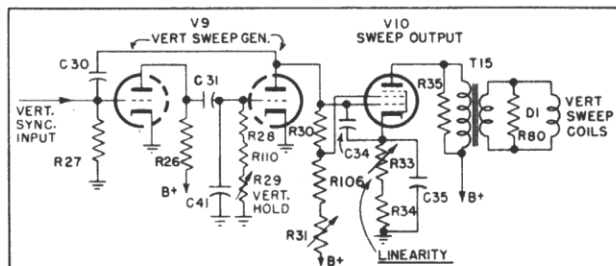

Fig. 9. Vertical Sweep and Output
**7. VERTICAL SWEEP GENERATOR AND OUTPUT (SEE FIGURE 9)**—The vertical sawtooth voltage is generated by a Type 6SN7GT tube, V9, connected as a multivibrator. This voltage is coupled directly to a Type 6V6G vertical sweep output amplifier tube,